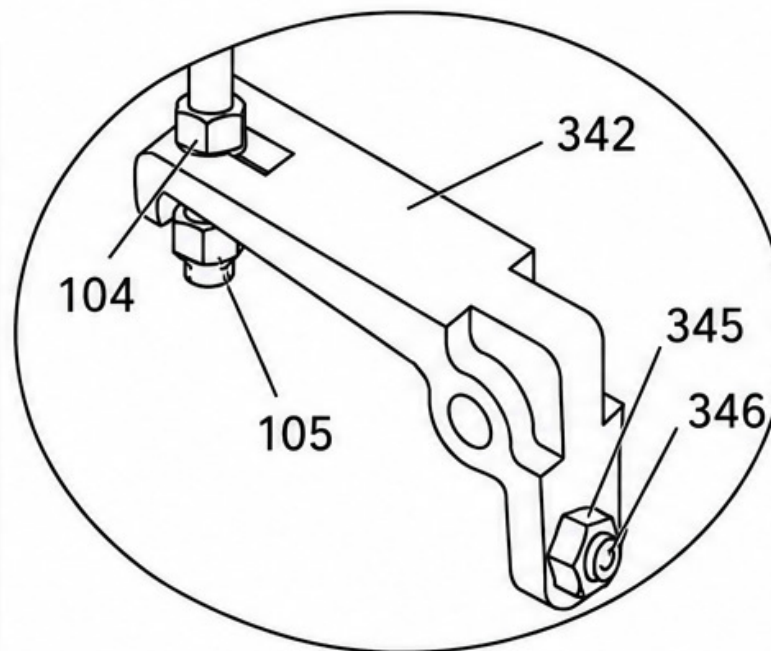

FIG. 2-2
The screw (346) shown in Figure 2-2 is used for adjustment of the vehicle condition. If the load rises but then drops immediately, turn screw (346) slightly counterclockwise, and test the vehicle again until it can lift normally.